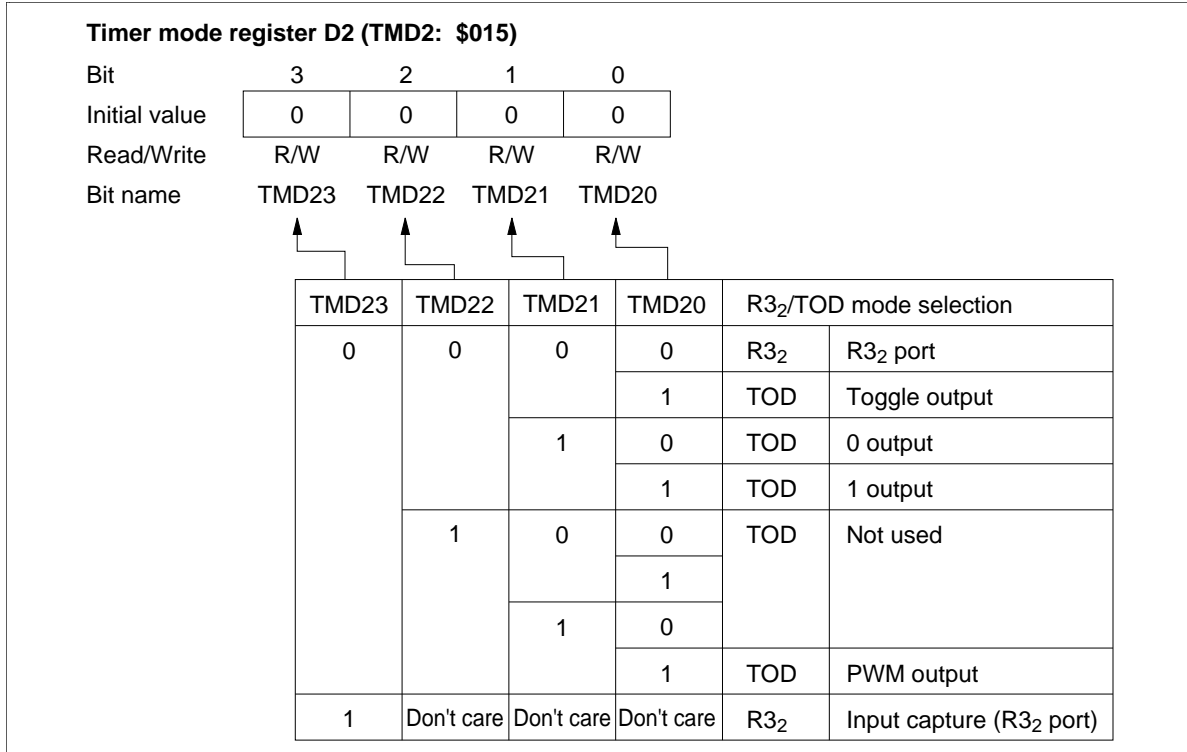

Figure 61 Timer Mode Register D2(TMD2)
- Timer mode register D2 (TMD2: \$015): Four-bit read/write register that selects the timer D output mode and input capture operation (figure 61). It is reset to \$0 by MCU reset.